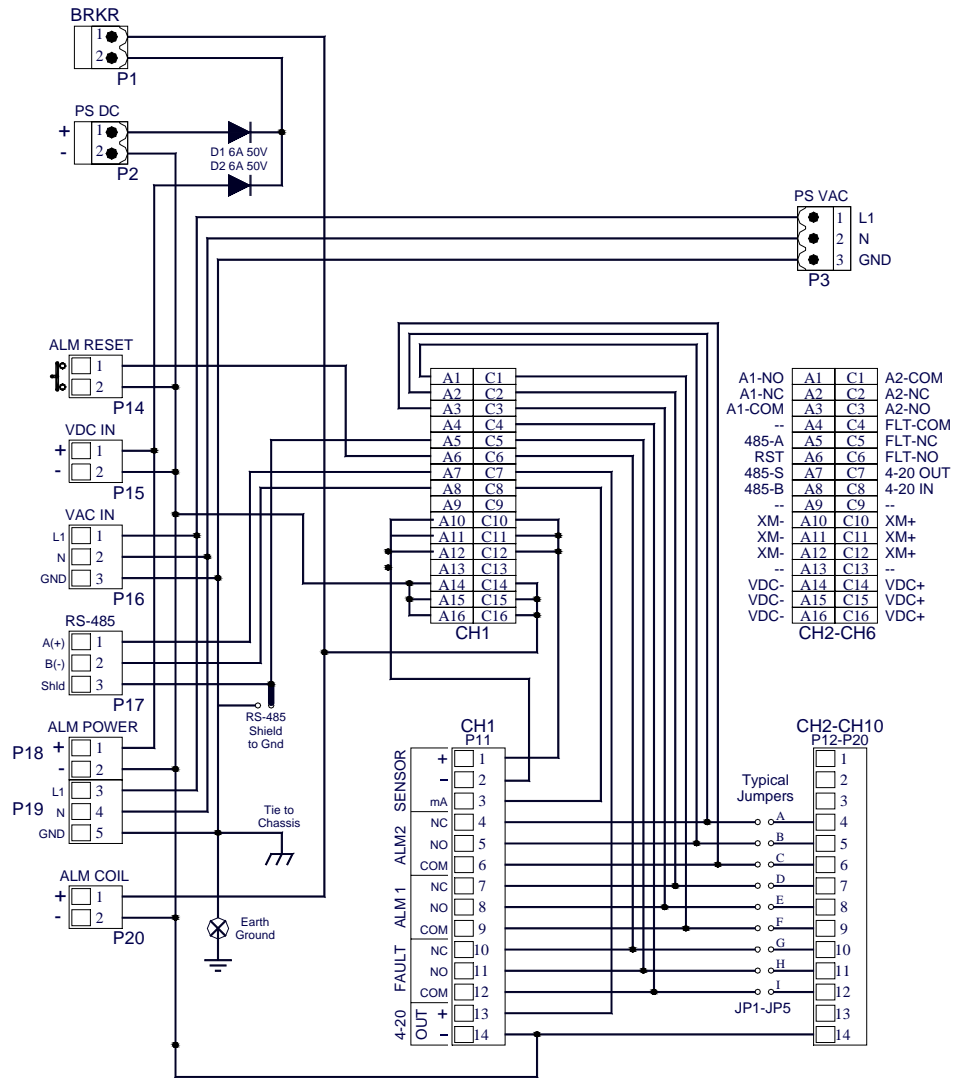

Figure 4 Motherboard Wiring Diagram
A remote mounted normally open momentary switch may be used to reset the alarms of all Model 10 controllers. “ALM RESET” (P14-1 and P14-2) provides a set of terminals to connect the switch across every Model 10 Controller (Figure 4). The reset function is effective when the Model 10’s respective alarms have been programmed in the latching position and alarm conditions have passed. Each Model 10 controller also has its own discrete alarm reset switch, discussed further in the Model 10 Controller Manual.
2. Refer to installation and wiring detail of remote mount sensor assemblies as detailed in the Sensor Instruction Manual. Terminate field wiring from sensors on the 1010-N4X motherboard. Terminals are labeled “Sensor” (mA, + and –, Figure 4).
3. If applicable, terminate the discrete 4-20mA outputs to external device(s). Terminals are labeled “4-20 Out” (+ and –, Figure 4).
4. If applicable, terminate the RS-485 serial output to external device(s). Terminals are labeled “RS-485” (A+, B–, and Shield, Figure 4). If applicable, terminate RS-485 Shield to Earth Ground via the jumper tab located to the left of the RS-485 terminals. Place the jumper on the bottom 2 contacts to tie RS-485 shield to Earth Ground or place the jumper tab on the top two terminals for storage.
- If applicable, connect a 24VDC source or standby battery to the terminal strip labeled “VDC IN” (P5+ and -) on the Motherboard (Figure 4).
- Connect 110/220VAC input wiring to the terminals labeled “VAC IN”; P16-1 (L), P16-2 (N), and P16-GND Ground (Figure 4). The Power Supply will accept input voltages from 100 to 240VAC, 50/60Hz.